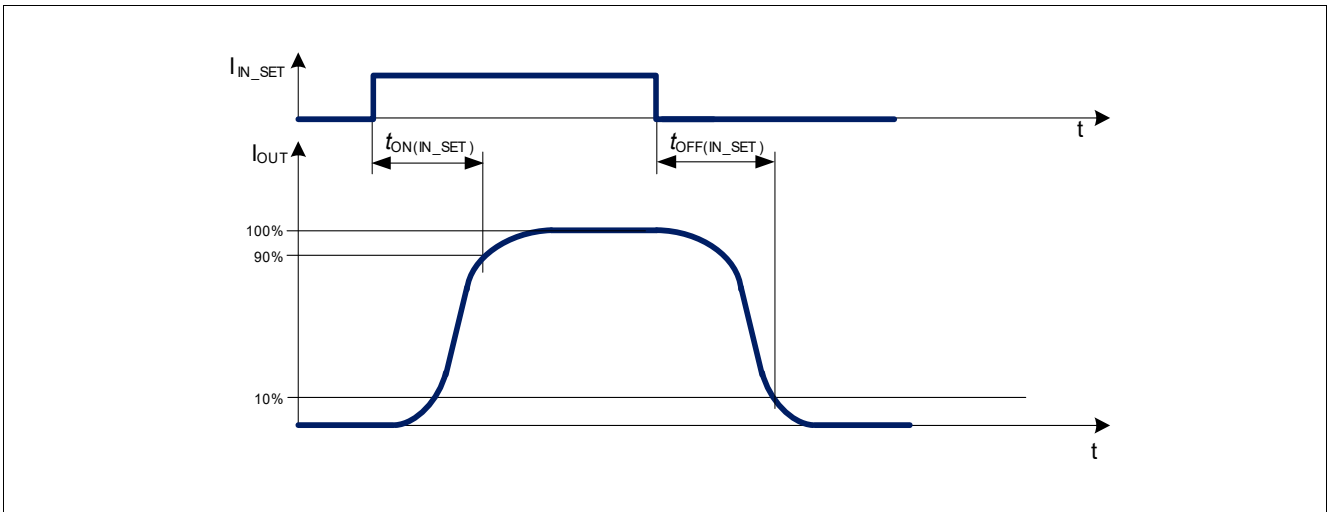
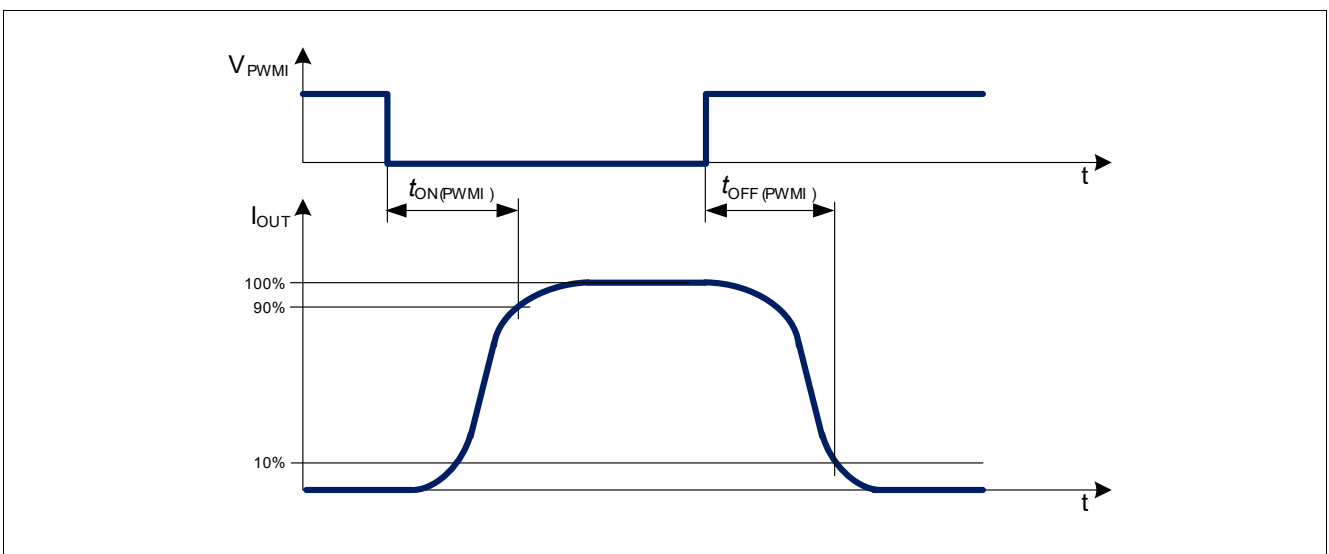

Figure 14 IN_SET turn on and turn off delay timing diagram
Figure 16 PWMI turn on and turn off timing diagram
In the following diagram (Figure 14, Figure 16) the influences of inputs on output activation delays are shown.
- 2) Refer to Figure 14.
- 4) Refer to Figure 16.